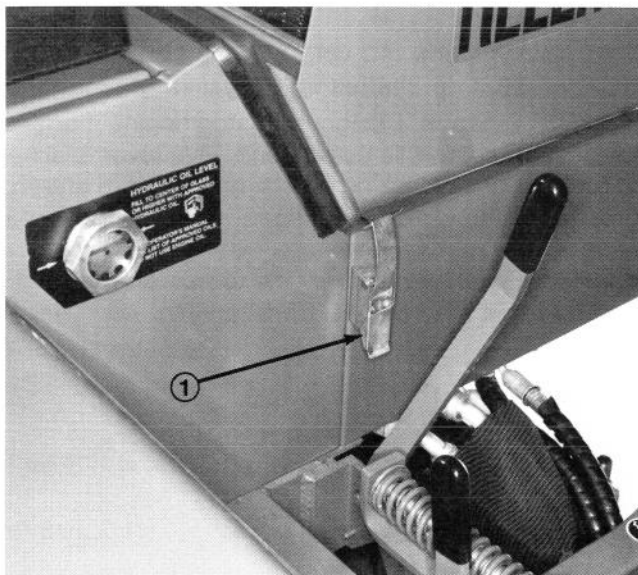

Figure 1
1. Park machine on a level surface. Release engine cover latches (Fig. 1).